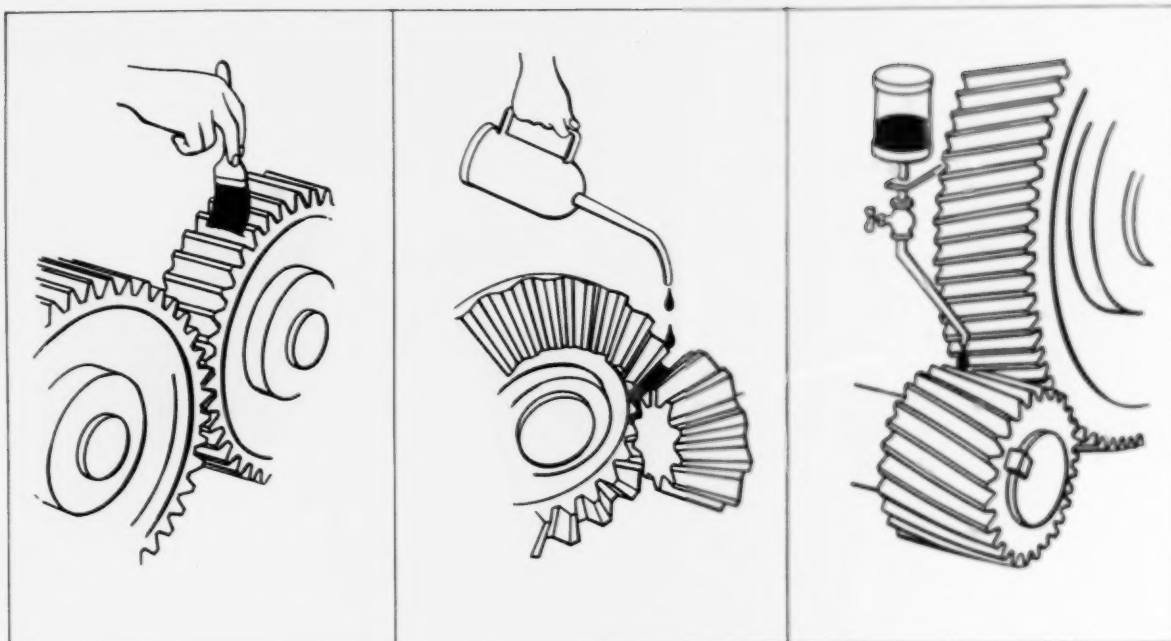

Fig. 72—Three Ways Of Lubricating Open Gears
2. Hand lubrication by brushing or squirting with oil can (Fig. 72).